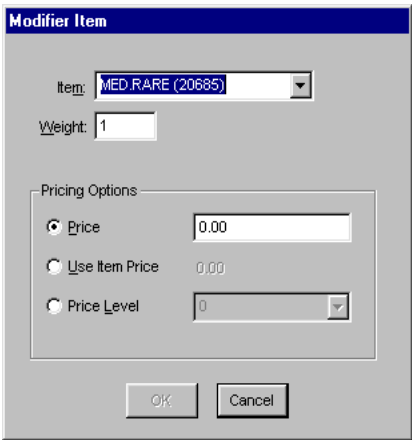

Figure 5-24 Modifier Item Dialog Box
1. Double-click the desired **button position**. The Modifier Item dialog box displays, as shown in Figure 5-24: